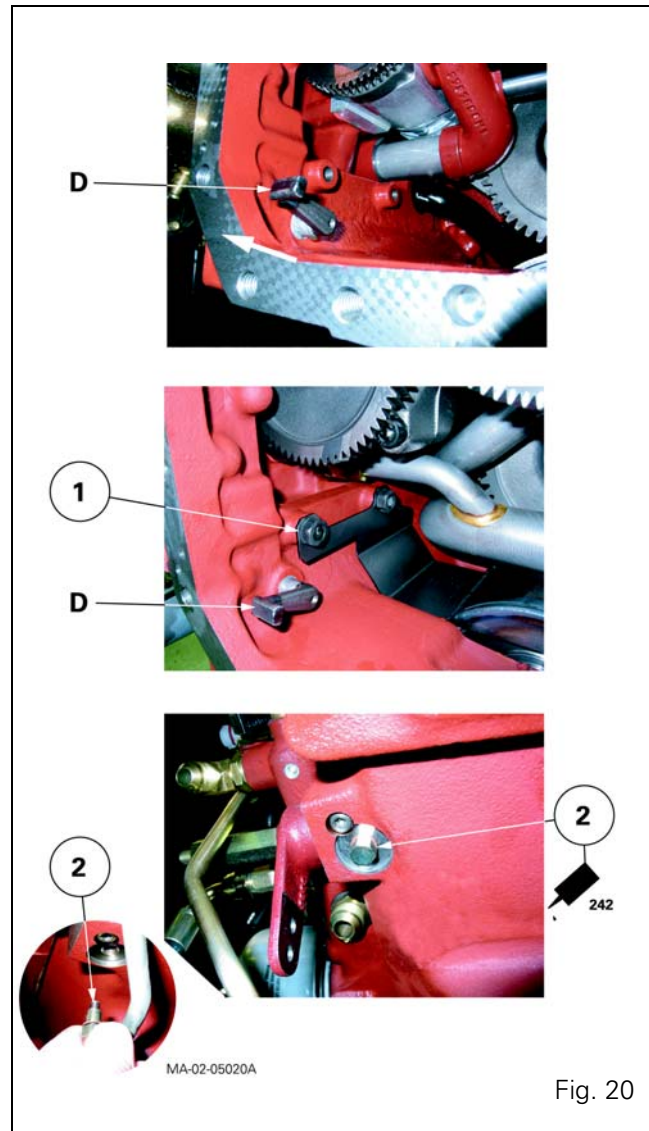

Fig. 20
The rotation of the control finger "D" of the creeper gears is limited by the presence of the studs and nuts assembly (1) in the centre housing (tractors with closed centre hydraulics - Fig. 20).
**78.** Pull the pin (2) outwards (Fig. 12) and direct the "D" finger towards the front of the centre housing (Fig. 20).
Engage the "D" finger (Fig. 20) in the creeper gear fork and position the seal on the screw (2) (Fig. 20) after lightly smearing it with Loctite 242 or equivalent. Moderately tighten the screw.